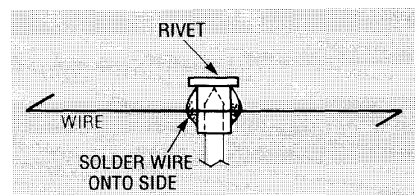

FIG. 15—THIS ION-MOTOR ROTOR, when placed on top of the sewing-needle emitter, will spin in a circle.
- You can make a rotor for an ion motor, using a light pivot made from a rivet with thin, stiff wire (like piano wire) attached, as shown in Fig. 15. The rotor must be balanced on top of the sewing-needle emitter (much as in a compass) used for the doubler shown in Fig. 8. (We ran a similar construction project in **Radio-Electronics**, February, 1991.) When powered up, the rotor will spin and a hissing sound will be heard. Both ends of the wire are bent at opposite right angles, so the emitted electrons propel the wire in a circle. You should sharpen both ends of the rotor wire to provide a sharp surface